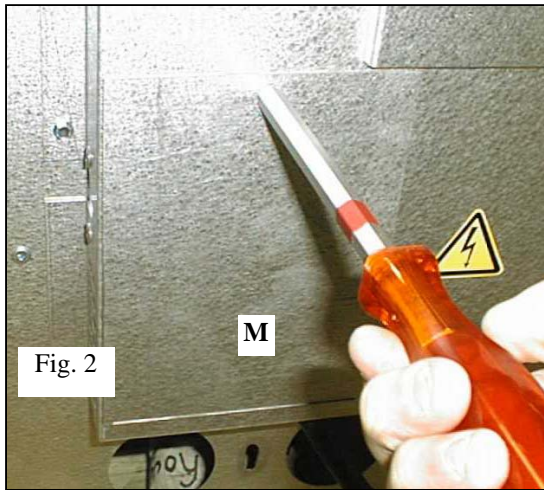

Fig. 2
- Remove access door **O** (Figure.2 gas oven range) or **P** (Figure 3 gas and electric range).